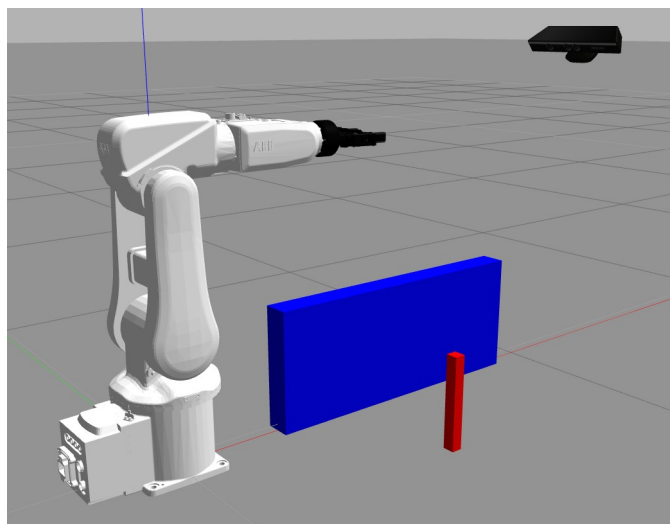

Fig. 1. ABB IRB120 arm in Gazebo, with a Robotiq gripper and a Kinect depth camera
3. **TEST 3: PERCEPTION IN GAZEBO.** For our third and more complex test your task is to update the gazebo world shown in Fig. 1 to create a complete grasping workstation, including a pedestal for the IRB120 arm, a table with several small cubes over it and the Kinect depth camera. Start with `roslaunch irb120_robotiq85_gazebo irb120_robotiq85_kinect_gazebo_world.launch`. After updating the Gazebo environment, you must create your own MoveIt configuration package, including perception and collision checking, and perform a pick and place operation including collision avoidance in the Gazebo simulator.